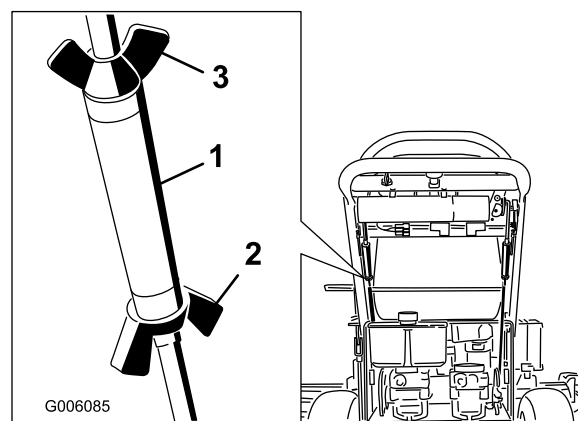

Figure 55
2. Loosen the wing nuts on the right control rod and rotate the turnbuckle in or out to ensure the right side control lever is centered in the neutral lock position. Secure the turnbuckle in position with the wing nuts (Figure 55).
3. Loosen the wing nuts on the left control rod and rotate the turnbuckle in or out to change the tracking. Secure the turnbuckle in position with the wing nuts (Figure 55).